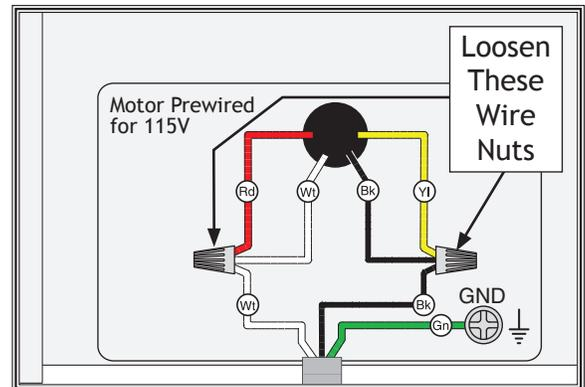

Figure 6. Motor prewired for 115V.
3. Open motor junction box, then loosen wire nuts indicated in **Figure 6**.